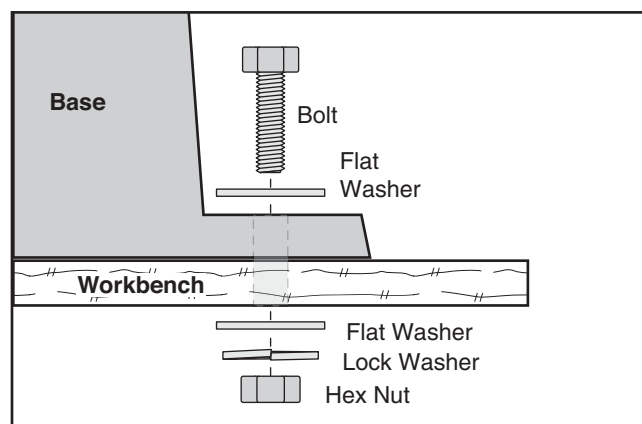

Figure 7. Example of a through mount setup.
5. Bolt the machine to the top of the workbench (**Figure 7**).